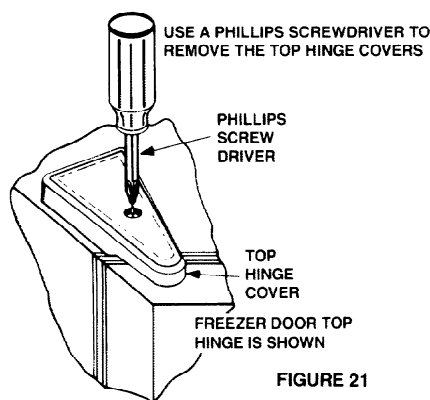

FIGURE 21
6. Remove the top hinge covers. See Figure 21.